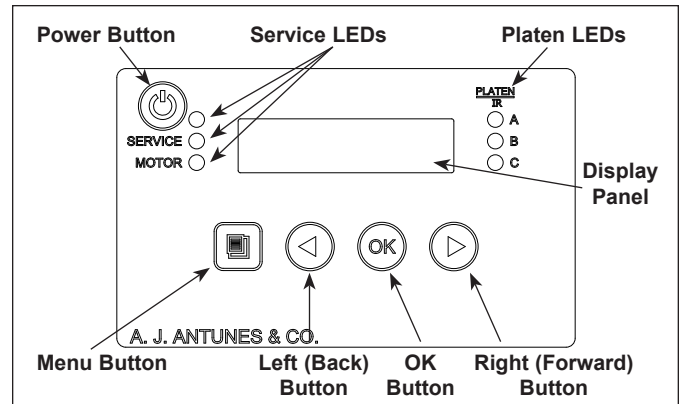

Figure 3. HCT-5H Control Panel
2. See Figure 3. Press and hold the **MENU** button for five seconds.
3. To change a setting, press the **OK** button and then press ◀ and ▶ to adjust as needed. Press the **OK** button again to save the changes. See Figure 3.